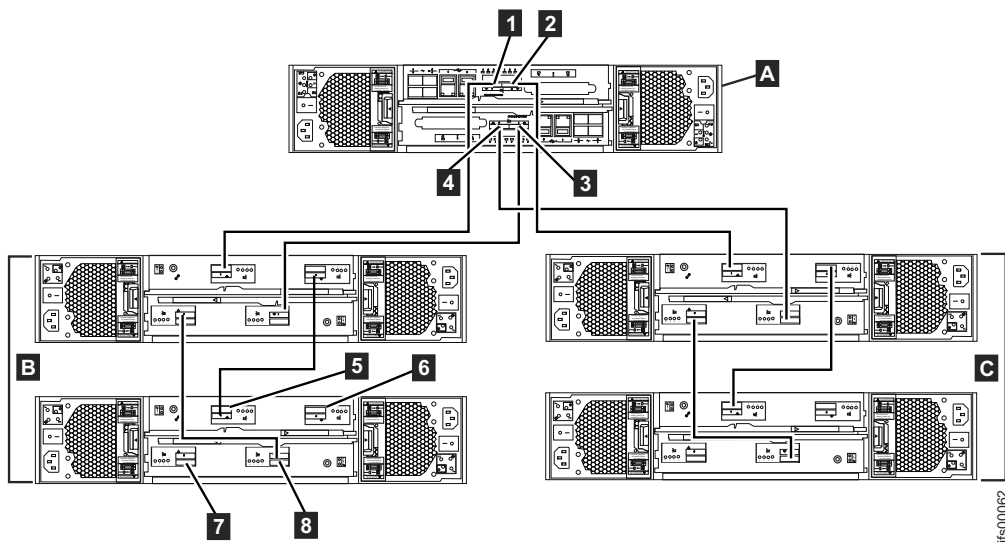

Figure 44. Internal cabling connections between the control enclosure (A) and the expansion enclosures (B & C)
Be aware of the following guidelines when you attach the cables to the SAS ports. Figure 44 on page 54 shows the internal cabling connections between the control enclosure (A) and the expansion enclosures (B & C).
The following table refers to Figure 44 on page 54.
1. Review How to connect SAS cables to expansion units and the figures before you attach the SAS cables. The following table refers to Figure 44.